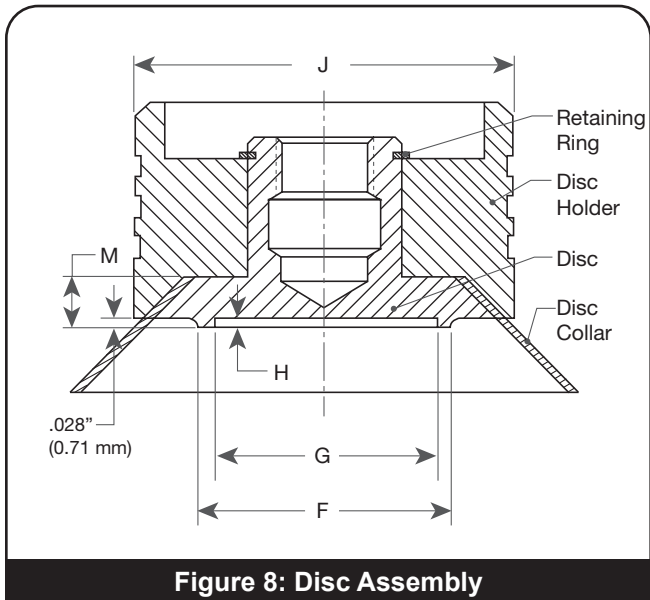
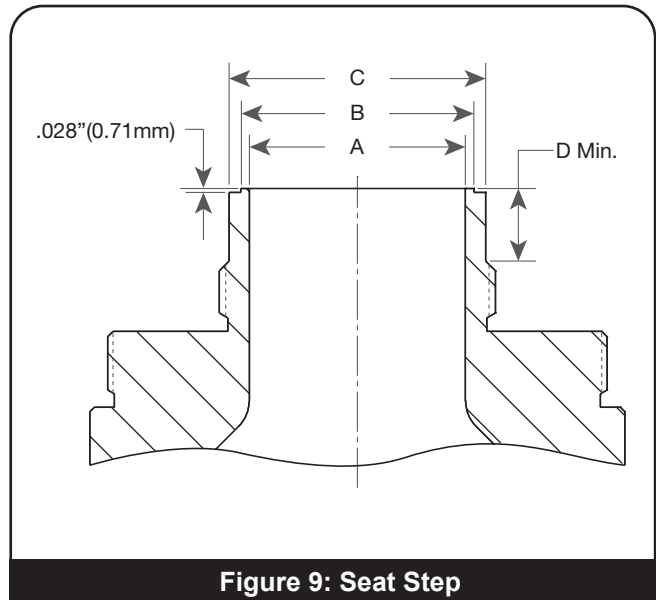
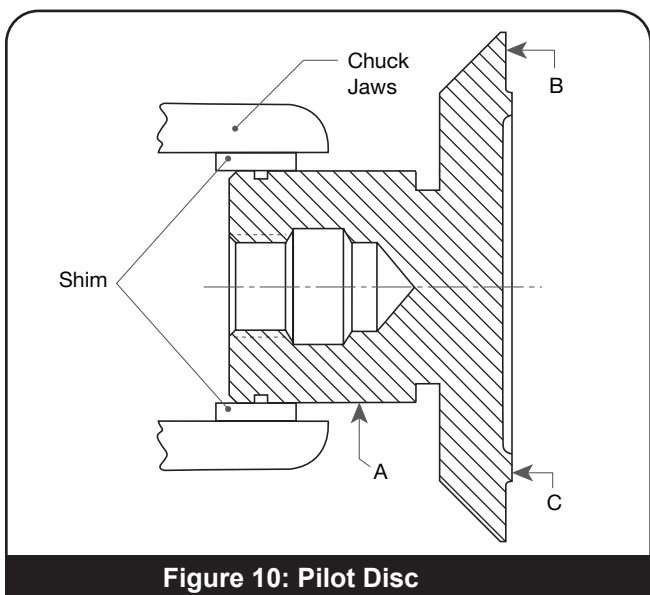
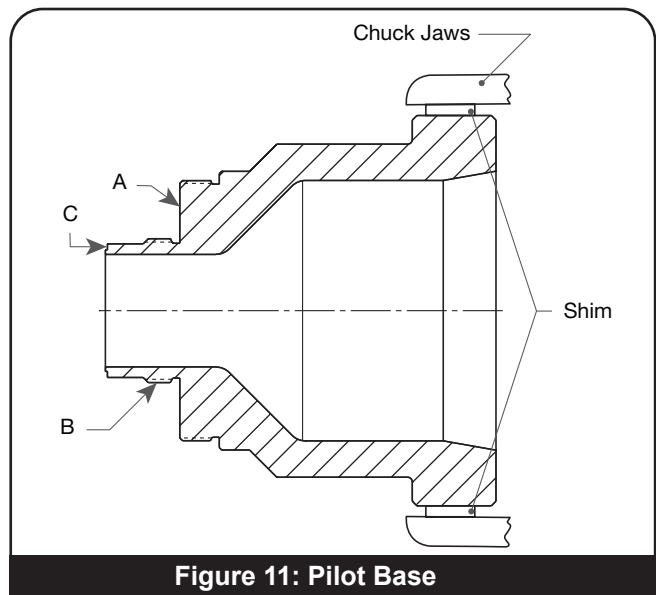

Figure 8: Disc Assembly
Figure 9: Seat Step
Figure 10: Pilot Disc
Figure 11: Pilot Base
To recondition the disc seal by lapping, it is necessary to disassemble the disc assembly. This is done in the following manner: referring to Figure 8 and Table 4, the disc is contained in the disc holder by a Truarc retaining ring. The ring may be removed using a Truarc Plier, Baker Hughes Part No. 5153302, after removing the Truarc ring, the disc collar can be removed from the disc holder.
11. When the seats cannot be repaired by lapping, they can be machined in accordance with the following instructions. Refer to Figures 8 to 11.
- b) Take light cuts across Disc Seat "C" (Figure 10) to remove defects and restore 32 RMS finish. Dimensions F and G must be maintained (Figure 8) and dimension .028" (0.71 mm) must be reestablished. When "M" dimension (Figure 8) has been reduced to .284" (7.21 mm), the disc should be replaced.
- c) Take light cuts across Pilot Nozzle Seat "C" (Figure 11), to remove defects and restore 32 RMS finish. Dimensions A, B and C must be maintained (Figure 9) and the seat step dimension .028" (0.71 mm) must be reestablished (Figure 9). When "D" dimension is reduced below minimum specified (Figure 10), the base should be replaced.
2. Reassemble disc assembly as shown in Figure 8.
3. Ensure the Pilot Base Flange (21) is installed on the Pilot Base (20). Place the Pilot Valve Base (20) and Flange (21) over the main valve bonnet studs (44) and secure with Nuts (45).
4. Place a new pilot bonnet to Base Gasket (25) on Base (20).
5. Put a small amount of lubricant¹ on the spindle (31) tip and lower Spring Washer (30) bearing surface of the spindle. Thread the disc on the spindle and assemble the Spring (41) and Spring Washers (30) and (32) on the spindle.
7. Install the Adjusting Ring (28) on the base (top of adjusting ring flush with seat).
8. Place a small amount of lubricant on the ball end of the Compression Screw (40).